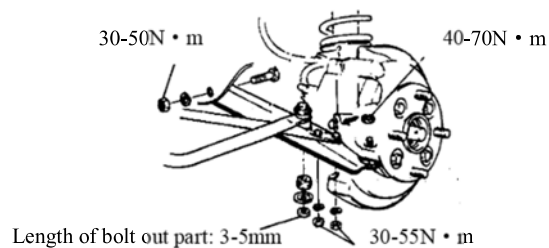
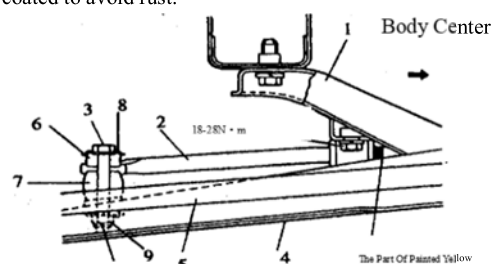

Fig.3.5-6
Fig.3.5-8
(4) Install the retarder to the body and screw the nut to the specified torque: 20-30N·m.
(5) Screw the sizing bolt of the steering knuckle and steering knuckle nut to the specified torque respectively. Please refer to Fig.3.5-6
(6) Install the brake hose. Do not torsion the hose. The oil pipe clamp card shall be correctly installed. 25-35N·m
- (1) Examine whether there exists crack, deformation and damage.
- (2) Examine whether the rotating and swinging process of the oversize ball pin is in balance.
(3) Install the anti-way bar to the cantilever by applying cushion pad, washer, bolt and nut. Screw the nut to the extent which can be done by hand. Please refer to Fig.3.5-8.
(4) Install the stabilizing pull rod to the cantilever, and screw the nut to the extent which can be done by hand.
(5) Install the ball pin to the steering knuckle.
(6) Screw all the screws and nuts to the specified torque. Please refer to Fig.3.5-6.
(7) Install the cotter pin to the ball pin and castellated nut, the oil paint shall be coated to avoid rust.
Assembly: Please refer to Fig.3.5-8